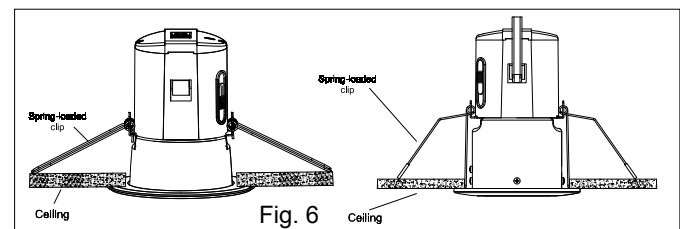

Fig. 6
- Continue inserting the fixture into the hole, while continuing to squeeze the spring-loaded clips. When the clips are mostly through the hole, release them and push the fixture until both clips flip down onto the backside of the ceiling surface (Fig. 6).